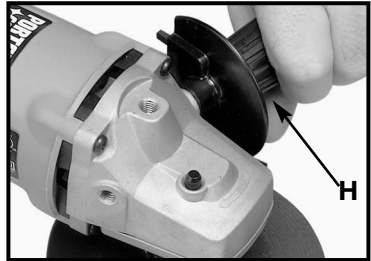

Fig. 1
An auxiliary handle (H) Fig. 1 is furnished with this tool and can be installed on either side or on top of the front housing. **THIS HANDLE SHOULD BE USED AT ALL TIMES TO MAINTAIN COMPLETE CONTROL OF THE TOOL.**